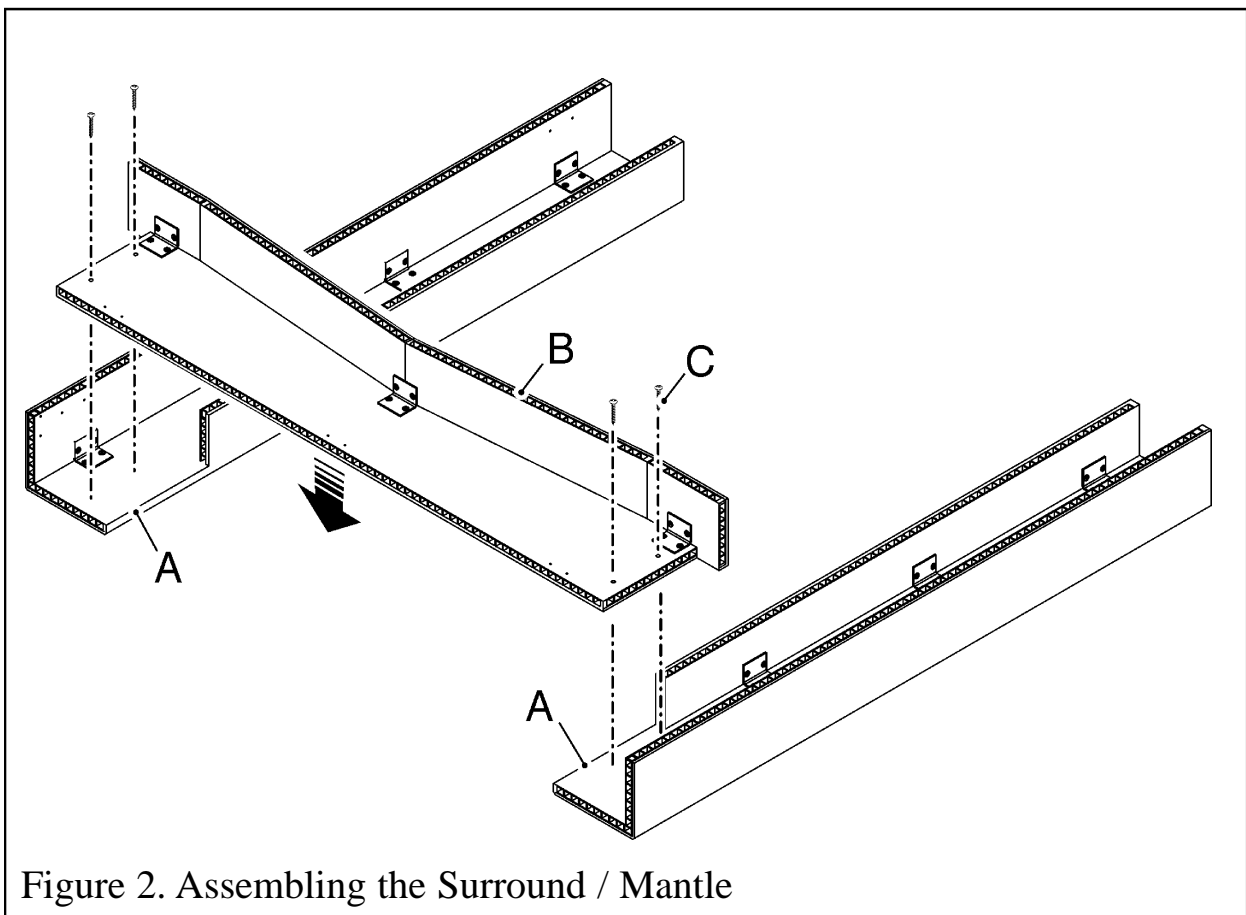

Figure 2. Assembling the Surround / Mantle
- Lay the two side legs (A) onto a smooth, flat, clean surface with the insides facing upward (See figure 2). Place the cross member (B) in place as in figure 2 and secure using four Screws (C)